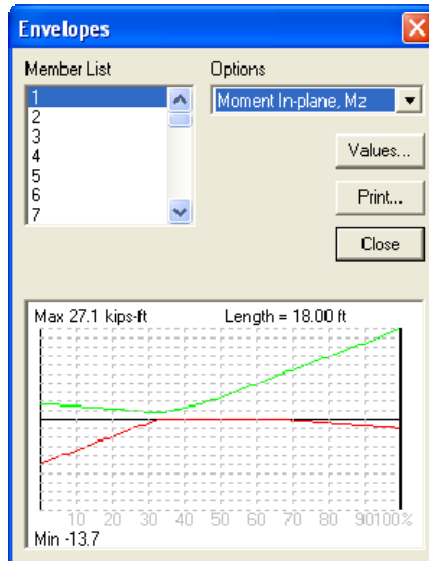

Figure 3-45 Envelopes dialog box
- From the Analyze menu, select Envelopes. The dialog box of Figure 3-45 appears.